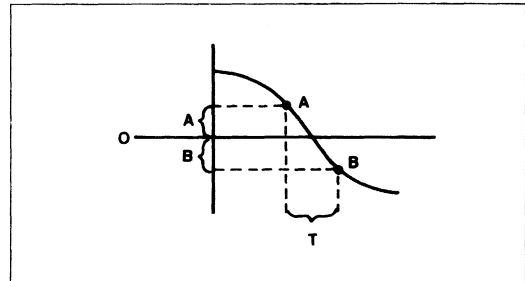

Figure 3. Samples of Zero Crossing
4. Access codes F1 and 71 represent limits on acceptable zero crossings for use by the carrier recovery loop. The carrier recovery loop uses several nonlinear controls in attempting to lock the zero crossings of the local carrier to those of the transmitter. Since Group 2 facsimile uses VSB transmission, it is necessary to either reconstruct the upper sideband or exclude those zero crossings that represent frequencies other than 2100 Hz. The R96F excludes unwanted zero crossings by testing the effective slope of the waveform as it crosses zero. In Figure 3, points A and B represent samples taken about a zero crossing over sample period T, where T = 1/10,368 seconds.